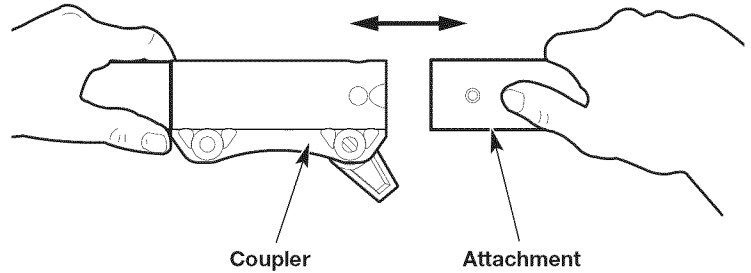
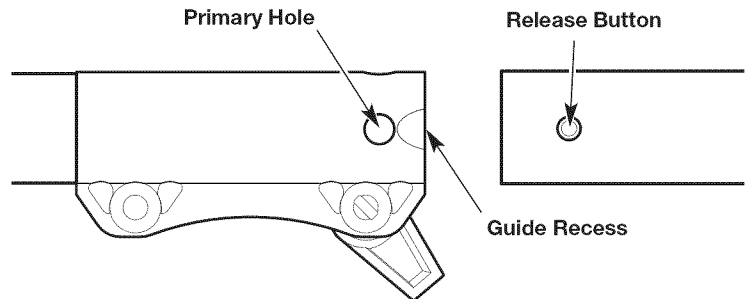

Fig. 5
Fig. 6
4. Align the release button with the guide recess (Fig. 6).
5. Push the attachment straight into the coupler (Fig. 5) until the release button snaps firmly into the primary hole (Fig. 6).
3. Press and hold the release button (Fig. 6).
4. Pull the attachment straight out of the coupler (Fig. 5).
**NOTE:** There is no need to turn the unit on. The On/Off switch is in the **On (I)** position at all times (Fig. 6).